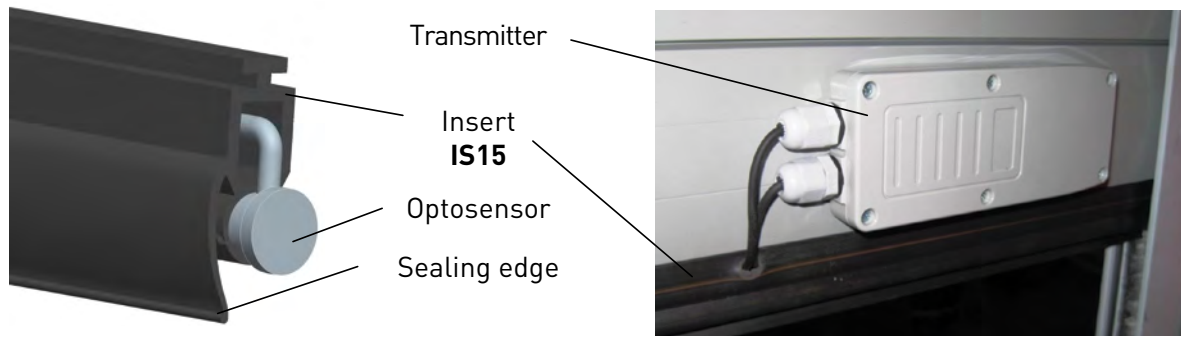

Fig. 4.1 Installation of optosensors and transmitter
2. Install the **IS15** insert in the end slat groove. The sealing edge of the insert must be directed to the outside (fig. 4.1).
4. Install the receiver (**Rx**) and transmitter (**Tx**) from the kit of optosensors **SIGNAL12** in round holes of the **IS15** insert (fig. 4.1). Install the transmitter (**Tx**) from the electric motor side. Draw outside the connecting cables of optosensors at the motor installation point according to fig. 4.1.